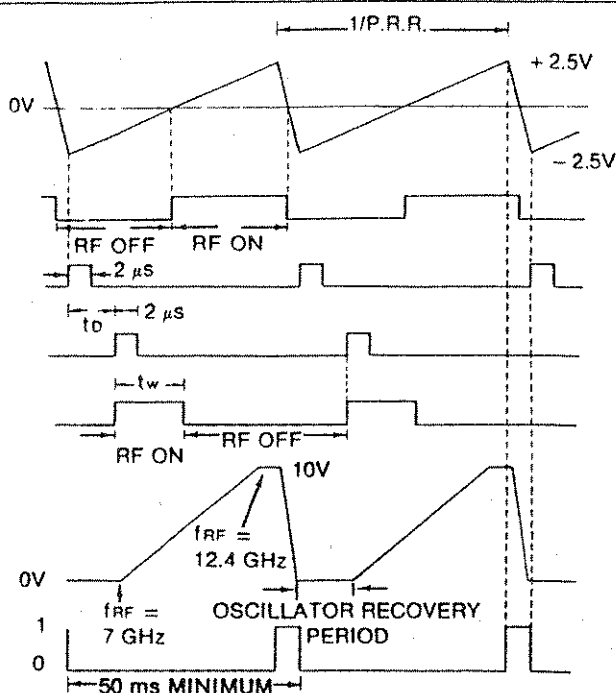

Figure 3-2. Pulse Mode/Sweep Timing Diagram
- 6 **MODE Buttons** — Three buttons set the mode to continuous wave output (CW), frequency modulated output (FM), pulse modulation output (PM) or swept output (SWEEP). Submodes to FM and PM are further selected by **7** and **8** respectively. The CW mode LED indicator lights when CW is selected. The operating mode can be any combination of AM, FM, PM and sweep; however, CW mode selection overrides all other modes. Buttons are press-to-hold, press-to-release. Should all three buttons be released, the mode will be CW (but indicator will not be lit).
- 7 **FM (INT/EXT)** — Submode selector of FM **6**. When pressed, modulation source is the front panel controlled internal sawtooth generator. When the button is extended, the modulator source is the externally applied signal at **29**. (Ref: Figure 3-2.)
**INT** ☐ — Pulsed RF output at 50% duty cycle controlled by the internal pulse generator whose rate is set by **9** and **26**. (Ref: Figure 3-2.)
**INT** ☐ — Pulsed RF output controlled by the internal generator whose rate is set by **9** and **26** and whose width is set by **11** and **21**. Delay relative to NORMAL SYNC **22** is adjusted by **10** and **23**. (Ref: Figure 3-2.)
2Ref: Figure 3-2.